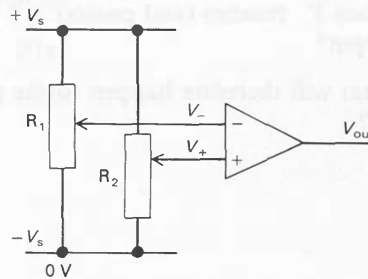

Figure I79
- 37(L)** The circuit of figure I79 is known as a comparator. What is the output V_{out} :